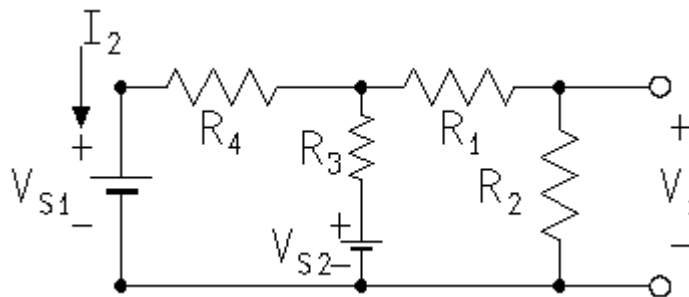

Figure 6.
1. Set up the circuit in Figure 6.
Use the principle of superposition to find V_1 and I_2 for the circuit in Figure 6. Show all of your work.